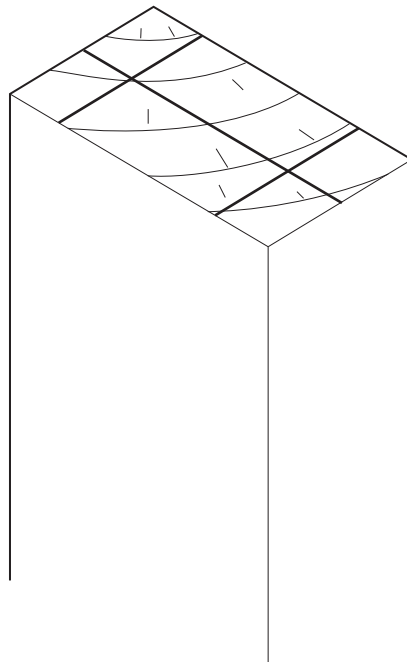

Fig. 10.1
- 10 Fig. 10.1 shows the end of a piece of wood. Two holes will be drilled at the centres shown. Add to Fig. 10.1 to show a drilling jig that could be used to make sure that the holes are drilled accurately.